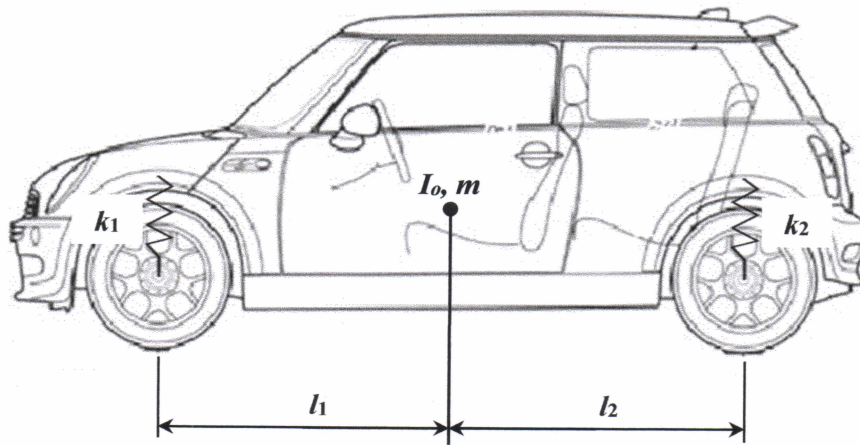

Figure Q2
- Q2** A Mini Cooper S as shown in **Figure Q2** having a mass  $m = 1200$  kg and a mass moment of inertia of  $I_0 = 400$  kg.m2, is supported on suspension system modelled as elastic springs. If the stiffness of the supports are given by  $k_1 = 3000$  N/mm, and  $k_2 = 2000$  N/mm, and the supports are located at  $l_1 = 1.0$  m and  $l_2 = 1.5$  m from the car centre of gravity.